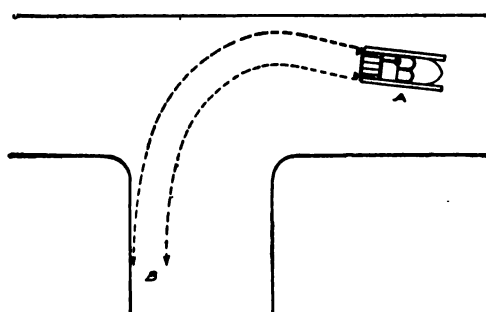

Fig. 37. Correct Turn to the Left
**Corner Shaving to Be Avoided.** Except when absolutely necessary to avoid a collision, corners should never be cut closely or "shaved" as it is often called. By shaving a corner the autoist runs chances of colliding with other vehicles, and engenders a dislike in all other users of the road not only for himself but for automobiles in general. There are numbers of drivers that habitually shave corners, who start to make the turn before reaching the proper point and cut diagonally across the road, obstructing traffic coming in the opposite direction, and hugging the left-hand corner of the intersecting road. Their desire is evidently to travel from one point to another in the shortest possible space of time, and, to save distance, cut the corners without regard to the rights or safety of others. The majority of automobile drivers of this class luckily confine their operations to city streets, although they are found in some numbers on country roads. On the other hand a large majority of horse drivers are corner shavers, women being particularly given to the practice. Because of the presence of this and the reckless classes of drivers, special caution has to be exercised at all times by those in charge of vehicles of every kind. See the turn indicated in Fig. 37.